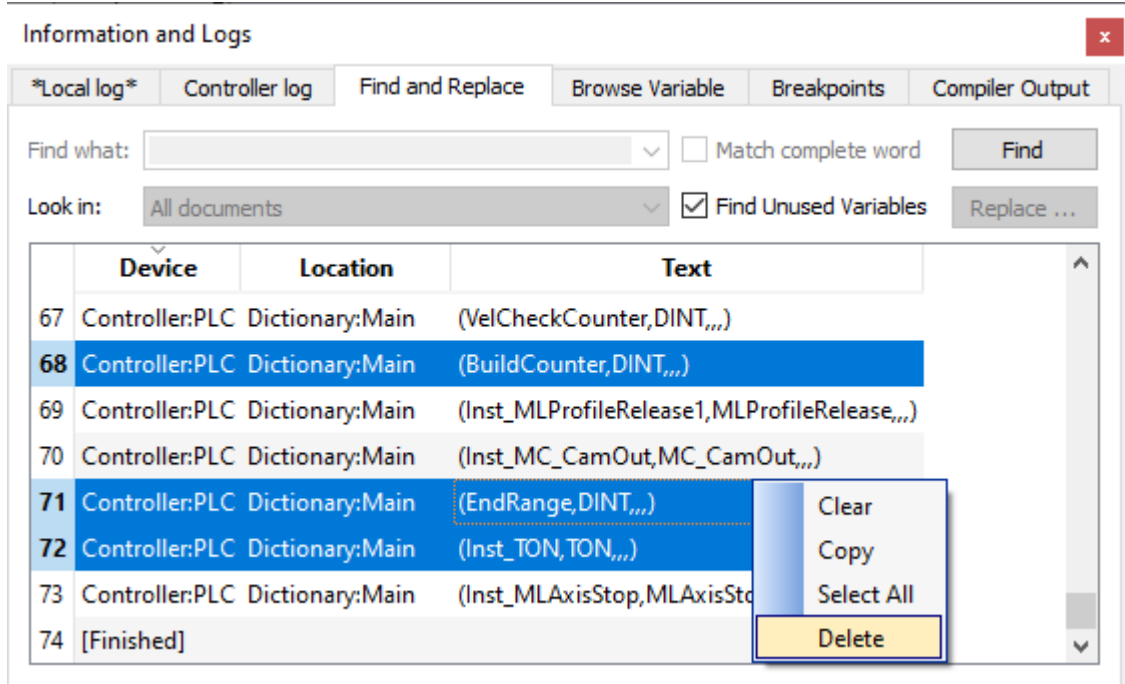

Figure 3-13: Find and Replace tab with Delete menu option Selected
- The menu includes a **Delete** option (Figure 3-13).